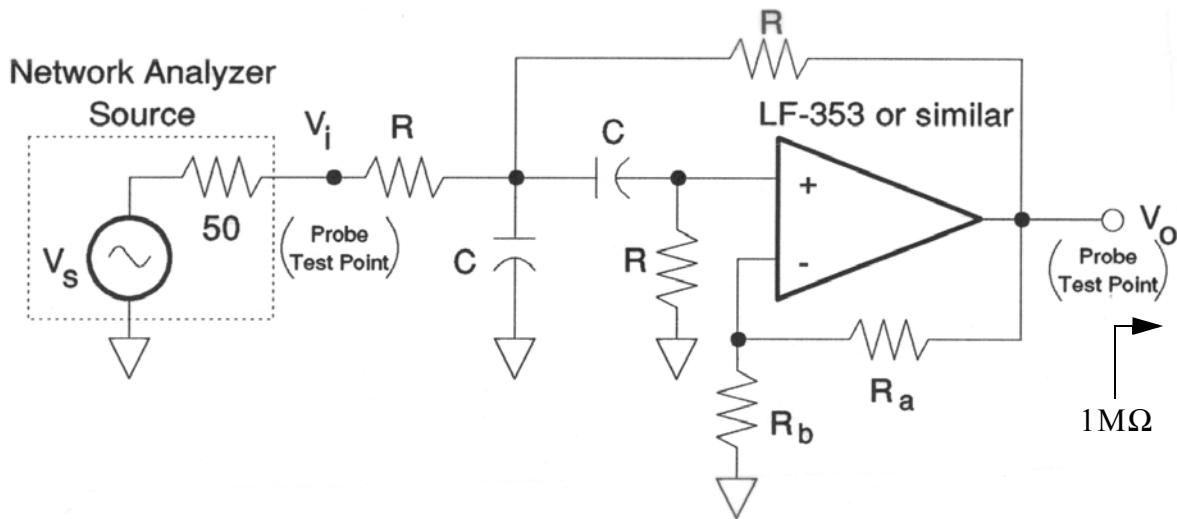
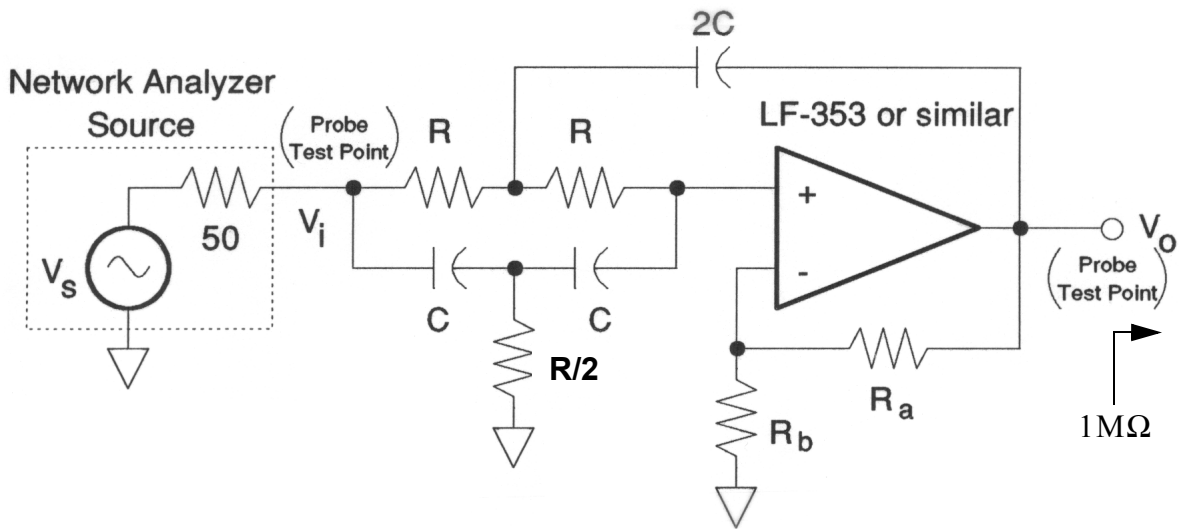

Figure 4: Second Order Sallen-Key BPF
Figure 6: Second Order Sallen-Key BSF
The design formulas for second order Sallen-Key BPF and BSF filters are provided below1. The circuit diagram of an equal component BPF is shown in Figure 4. The filter transfer function
A general BPF frequency response showing the relation between  $Q$  and BW is shown in Figure 5a. The schematic of the Sallen-Key BSF is shown in Figure 6. The filter transfer function is given by
- (a) Design and build either a BPF or a BSF as shown in Figure 4 and Figure 6 respectively. Use an LF-353 or similar (bi-fet) op-amp. Design the filter to have a center frequency of about 10 kHz and  $2 \leq Q \leq 5$ . As a starting point you may wish to choose  $C = 1$  nf. To allow a variable  $Q$  you may also wish to replace the gain set resistors,  $R_a$  and  $R_b$ , with a potentiometer ( 10 k ohm works fine).